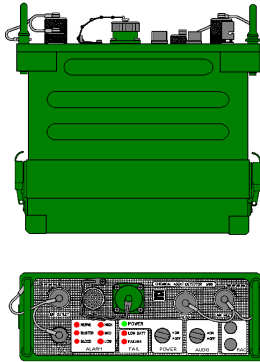

Figure 4, M90 Chemical Warfare Agent Detector
- **M90 Chemical Warfare Agent Detector:** This is a stand-alone, point source vapor detector capable of identifying and quantifying the presence of blister as well as G and V nerve agents. Upon detecting these agents, the M90 sounds a local audible alarm, provides a visual alarm, and measures the concentration of the agent present. Use the M90 with the M90-RH1 alarm unit to provide a remote alarm capability. This detector, like the M8A1, should be positioned around the perimeter upwind of the base. See Figure 4.